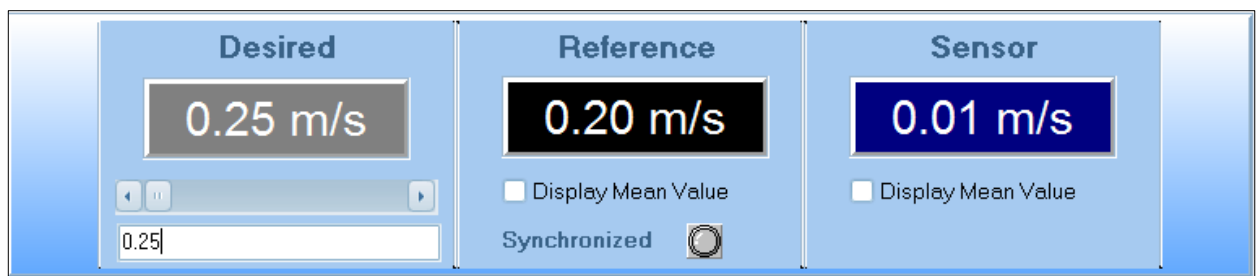

Figure 11: Setting Desired speed of Wind tunnel for measuring a starting Threshold
1. Click into the **mask** at the panel of the *Desired speed of Wind tunnel* named **Desired** and set *manually* the Desired Speed of Wind Tunnel rated value to Zero. Alternatively use the **regulating bar** (See Figure 11).